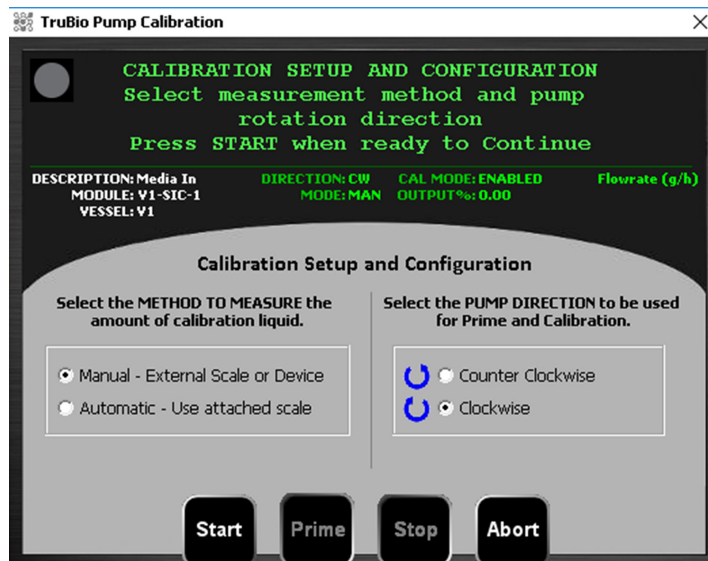

Figure 3.33. Selecting method and pump direction for calibration.
7. Select the method (**Manual** or **Automatic**) and the pump direction (Figure 3.33). Then, click Start.
4. In the calibration setup screen (see Figure 3.33 on page 105), select **Automatic**.